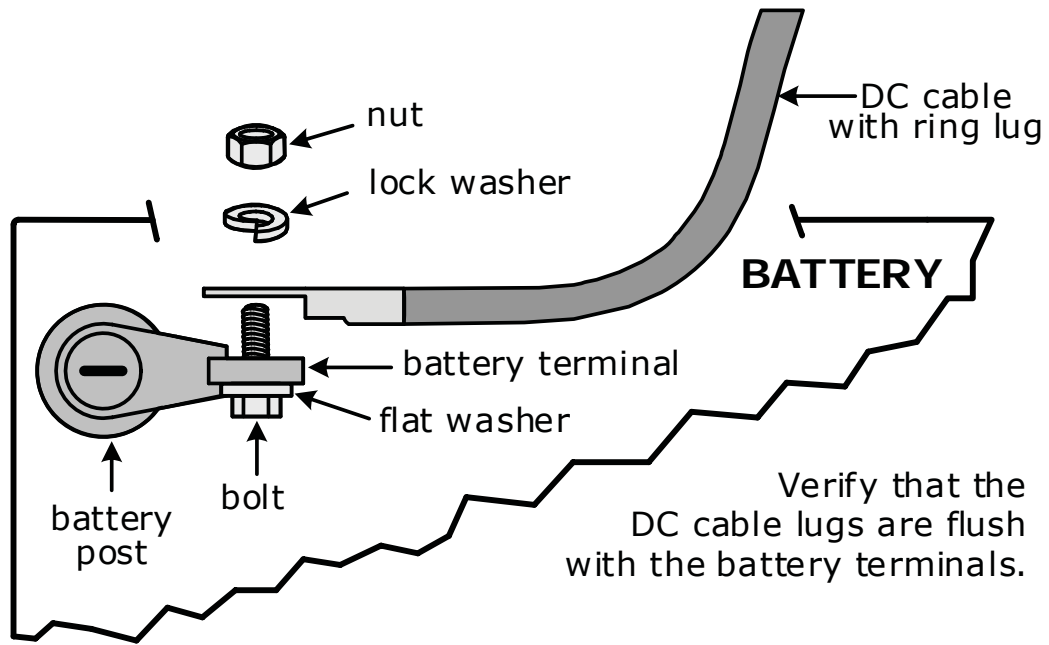
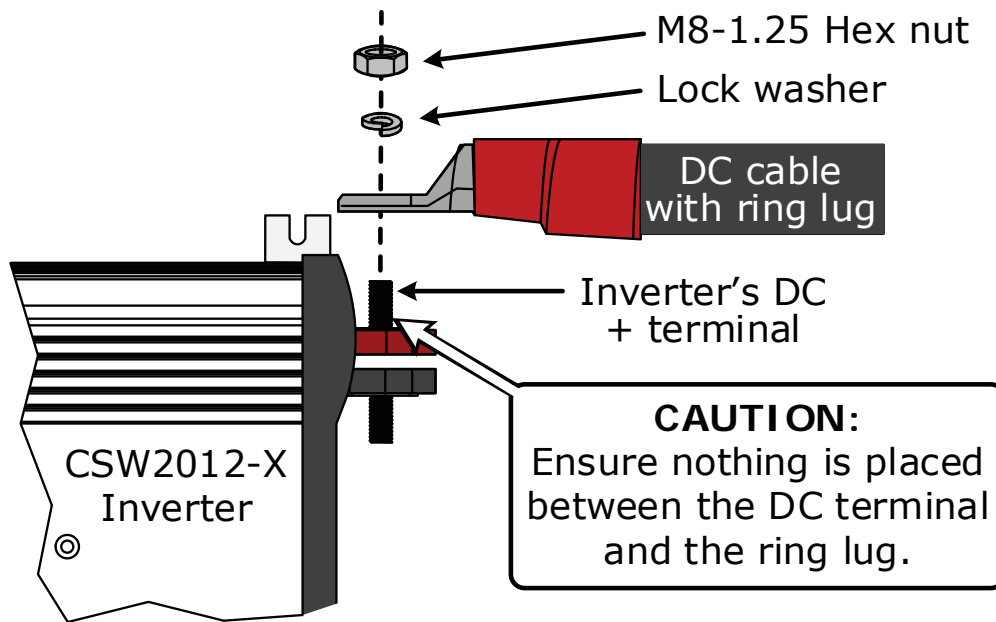

Figure 2-4, DC Cable to Battery Terminals
Figure 2-5, DC Cable to Inverter's DC Terminals
Refer to Figure 2-4 when connecting the DC wires to the battery, and to Figure 2-5 when connecting to the inverter. Also, consider the following requirements to ensure maximum performance:
Do not put anything between the battery cable ring lug and the battery post (see Figure 2-4), or the flat metal part of the inverter's DC terminal (see Figure 2-5). When connecting the battery cable, it should be placed directly against the battery post or inverter terminal. Incorrectly installed hardware causes a high resistance connection which could lead to poor inverter performance, and may melt the cable and terminal connections. See Table 2-1 for the torque requirements.
5. Ensure the DC wire connections (on the batteries, inverter, and DC circuit breaker/fuse) are flush on the surface of the DC terminals, and all hardware used to hold these connections are stacked correctly (see Figures 2-4 and 2-5). Verify all DC connections on the inverter are torqued correctly (see Table 2-1), and the total cable distance from the inverter to the battery is within the requirement of Section 2.4.1 (DC Wire Sizing).